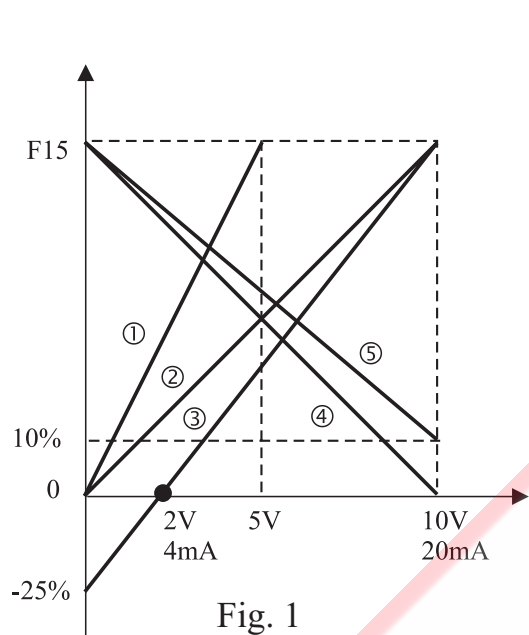

Fig. 1
**\* Refer to the Description Given Below According to the Chart Given Above Fig. 1:**